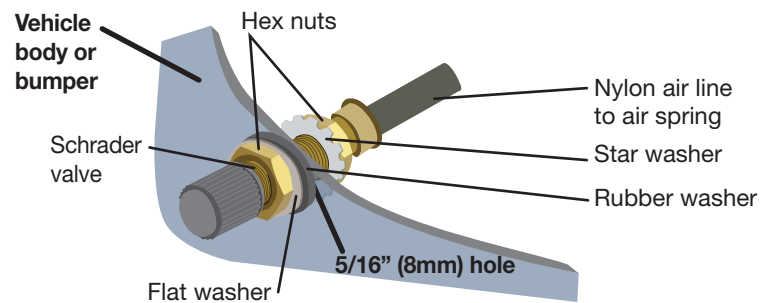

fig. 17
3. Install the Schrader valve in the chosen location (Fig. 17).